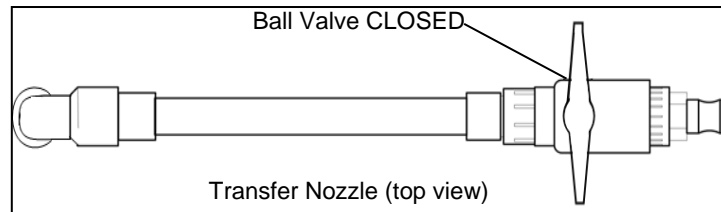

Figure 8
- Hold the Transfer Nozzle and make sure the Ball Valve on the Transfer Nozzle is CLOSED (Figure 8).